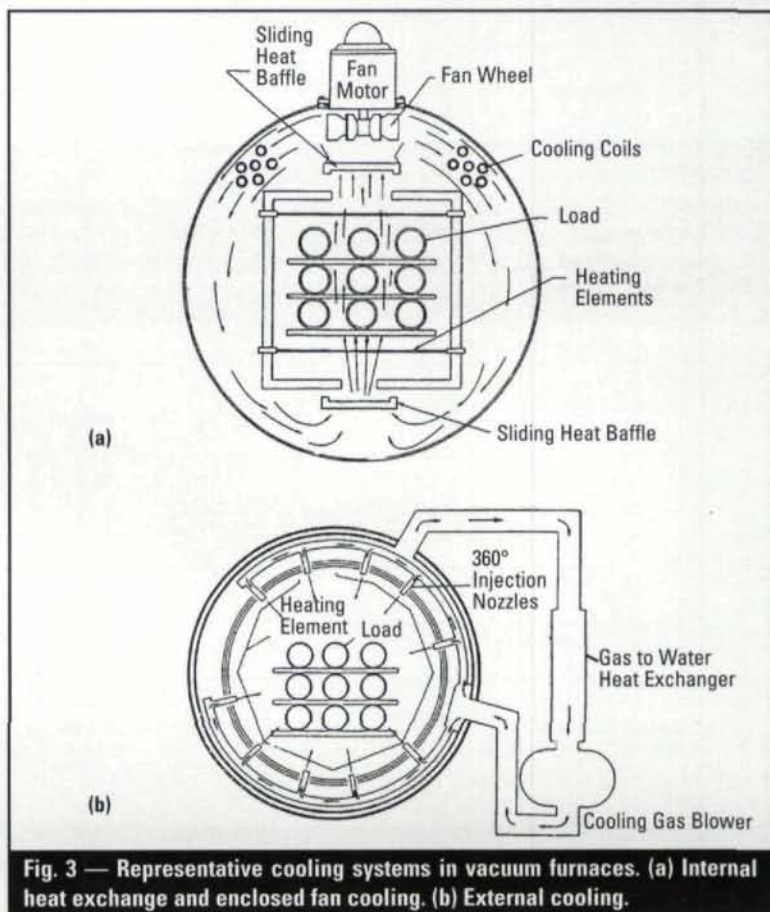

Fig. 3 — Representative cooling systems in vacuum furnaces. (a) Internal heat exchange and enclosed fan cooling. (b) External cooling.
**Sub-Atmosphere Pressure Quenching.** Initially most vacuum furnaces were built with this option, which, after vacuum treating, backfills the heating chamber with an inert gas to slightly below atmospheric pressure. The gas is recirculated at varying flow rates through an internal or external heat exchanger until the charge cools down (Fig. 3).